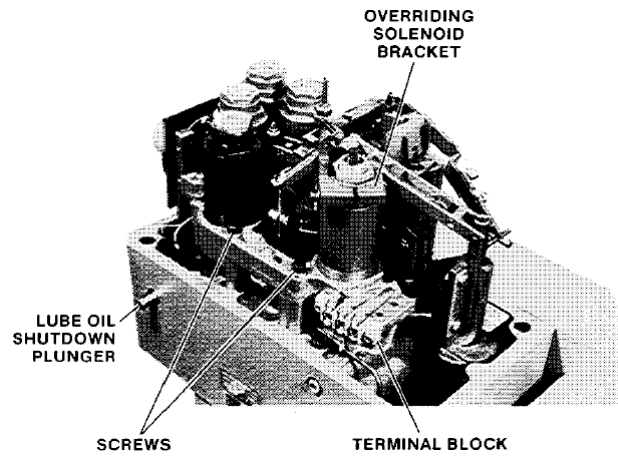

Figure 5-1. PGEV with Fuel Limiter
2. If overriding solenoid (ORS) bracket is present, remove it. (Figure 5-1).